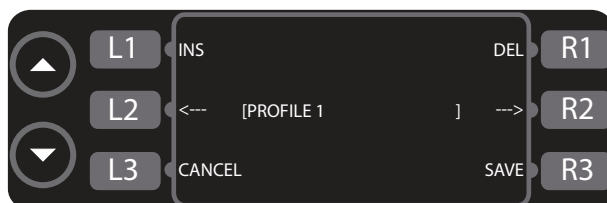

Figure 8: Name Change Screen
- From the cooking screen (Figure 7), press L1 to access the name change screen (Figure 8).